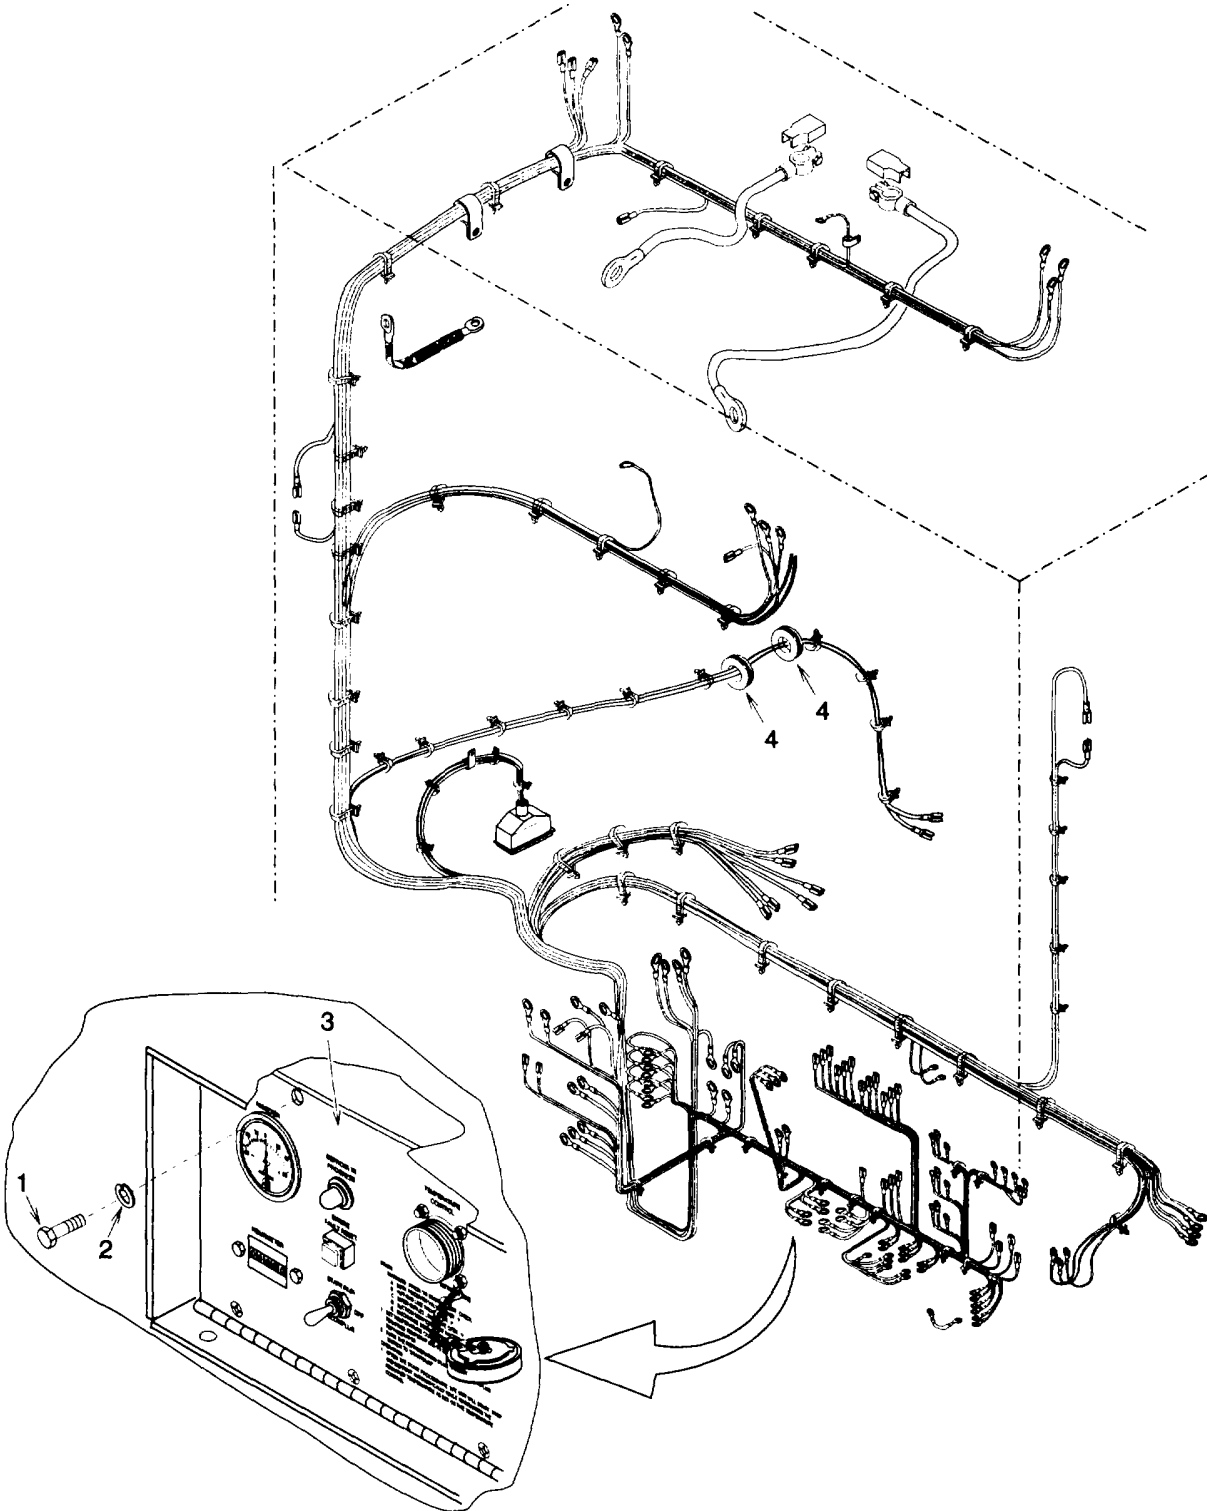

Figure 4-13. Wires Cables and Harnesses
- (1) Be sure battery has been disconnected then remove two bolts (1) and lock washers (2). Open control panel (3). Discard lock washers.
- (2) Tag and disconnect wire leads from components as necessary to isolate the wire or harness being tested.
- (3) Using multimeter set to measure continuity, check each end of the wire lead(s) (fig. 4-13 and table 4-4).
- (4) Replace any wire lead(s) that do not show continuity (table 4-4).